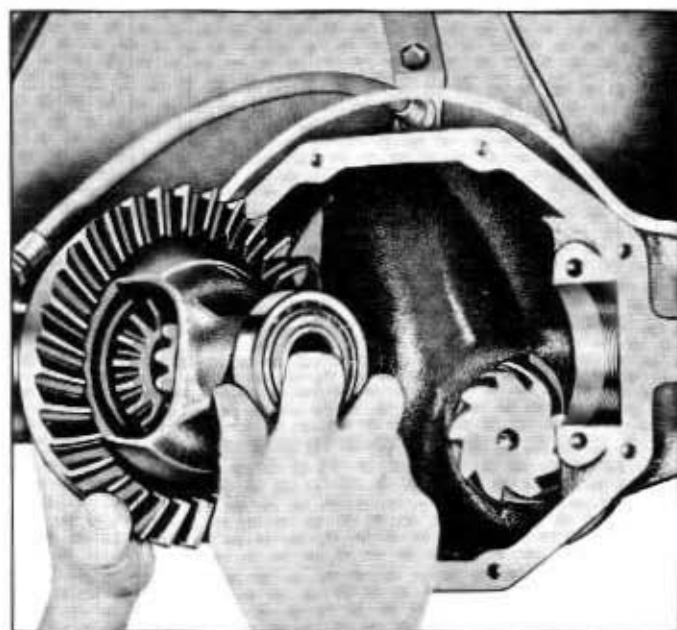

Fig. 4-19—Differential Case Removal—(60C-5209)
4. Remove the differential case and bearing cups. See figure 4-19.
9. Place the cups on the bearings and set the differential case assembly in the carrier casting. Refer to figure 4-19. Slide the assembly along the bores until a slight amount of backlash is felt between the gear teeth. Hold the differential case in place.